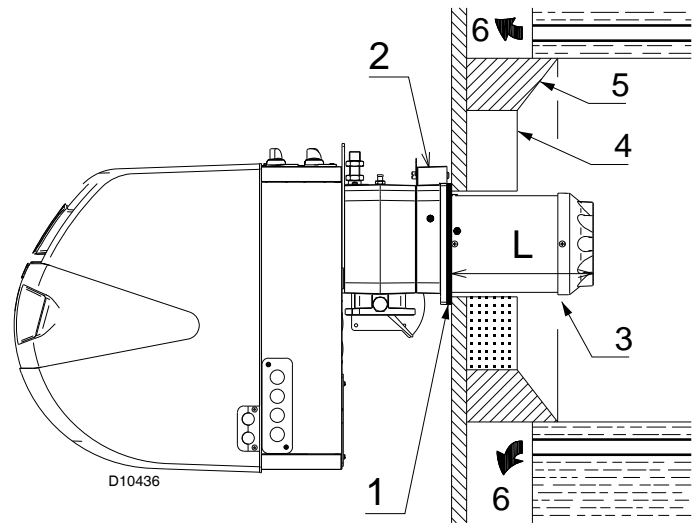

Fig. 11
- For boilers having a water-cooled front the insulation 4)-5) (Fig. 11) is not required unless it is required by the boiler manufacturer.
- Secure the flange 2)(Fig. 11) to the boiler plate, inserting the gasket 1)(Fig. 11).